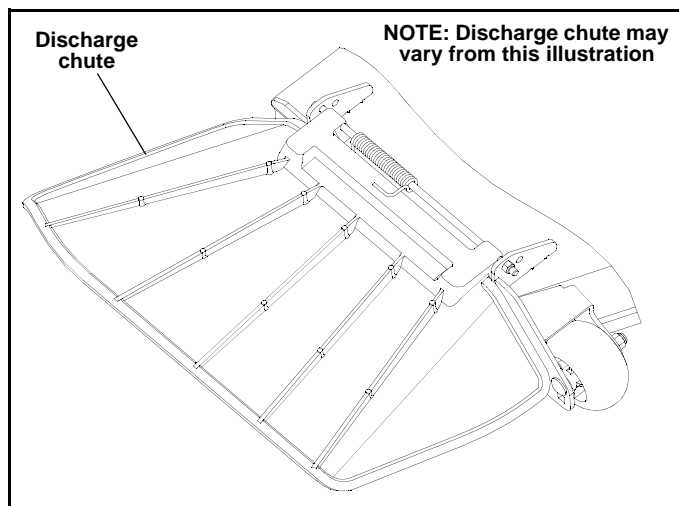

Figure 3-12
**Side Discharge Decks** – Never direct the discharge of material from the mower deck toward bystanders. Do not operate the mower without either the discharge chute or the entire grass collection system in place. Figure 3-12